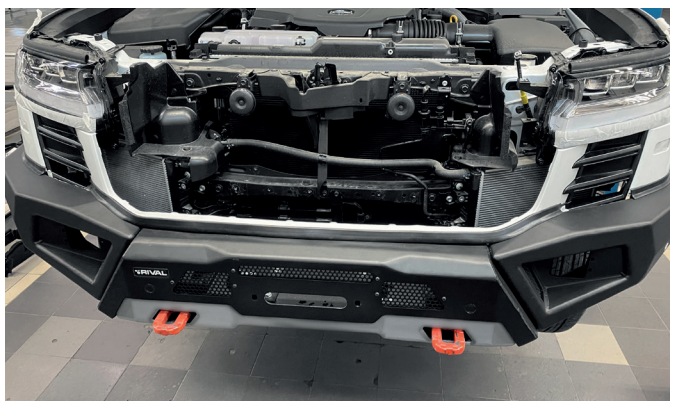

Fig.46
46. Install OE bumper on the vehicle, connect OE wiring on OE and Rival bumper and fix it using cable ties (item V) (fig. 46).